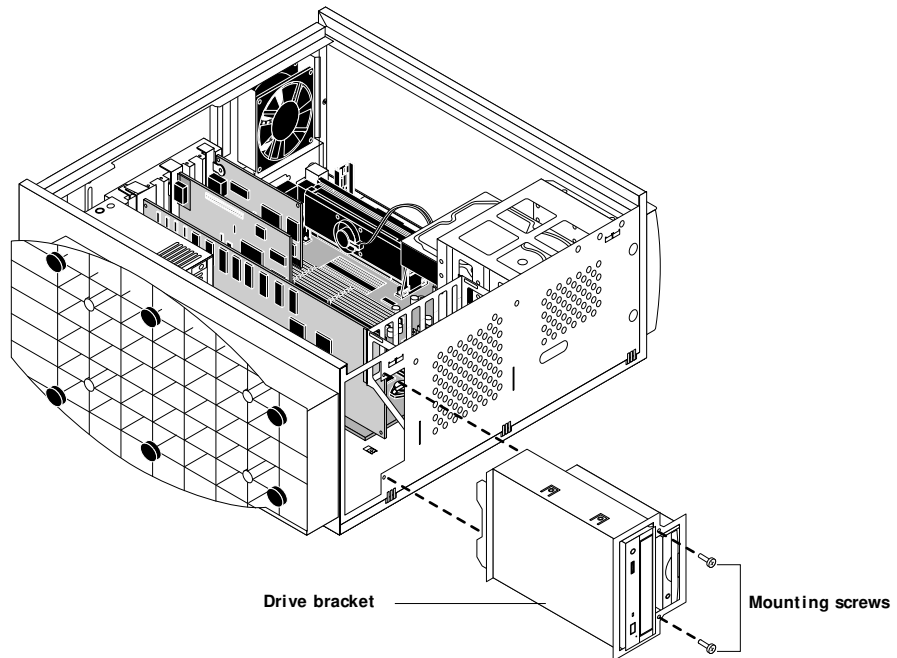

FIGURE 4-30 Removing/replacing the drive bracket
4. Replace the two screws on the front of the tray that secure the drive bracket to the tray (see Figure 4-30 on page 4-48).